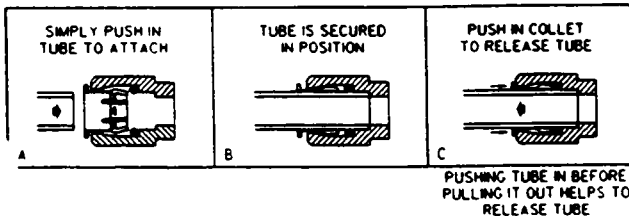

FIG. 4
6. **Make connection between remote chiller outlet tube and fountain Y-Strainer.** Insert water line to positive stop approx.  $\frac{3}{4}$ " (19 mm). (See Fig. 4 & 5 on page 9)
6. Make connection between remote chiller outlet tubes and fountain Y-Strainer. Insert water line to positive stop approximately 3/4" (19 mm). (See figure 4 & 5, page 9)